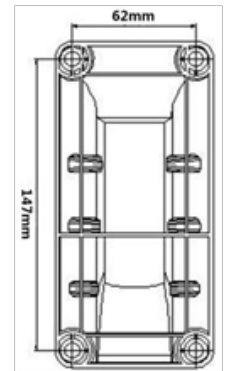

Fig. 2
3. Take the mounting bracket as a template to mark the position of the screws, and drill four holes in the wall (fig. 2).